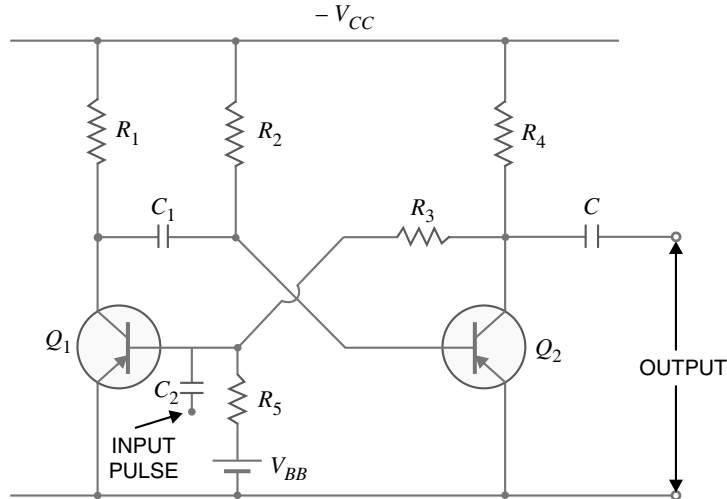

Fig. 16.21
**Circuit details.** Fig. 16.21 shows the circuit of a transistor monostable multivibrator. It consists of two similar transistors  $Q_1$  and  $Q_2$  with equal collector loads i.e.  $R_1 = R_4$ . The values of  $V_{BB}$  and  $R_5$  are such as to reverse bias  $Q_1$  and keep it at cut-off. The collector supply  $V_{CC}$  and  $R_2$  forward bias  $Q_2$  and keep it at saturation. The input pulse is given through  $C_2$  to obtain the square wave. Again output can be taken from  $Q_1$  or  $Q_2$ .